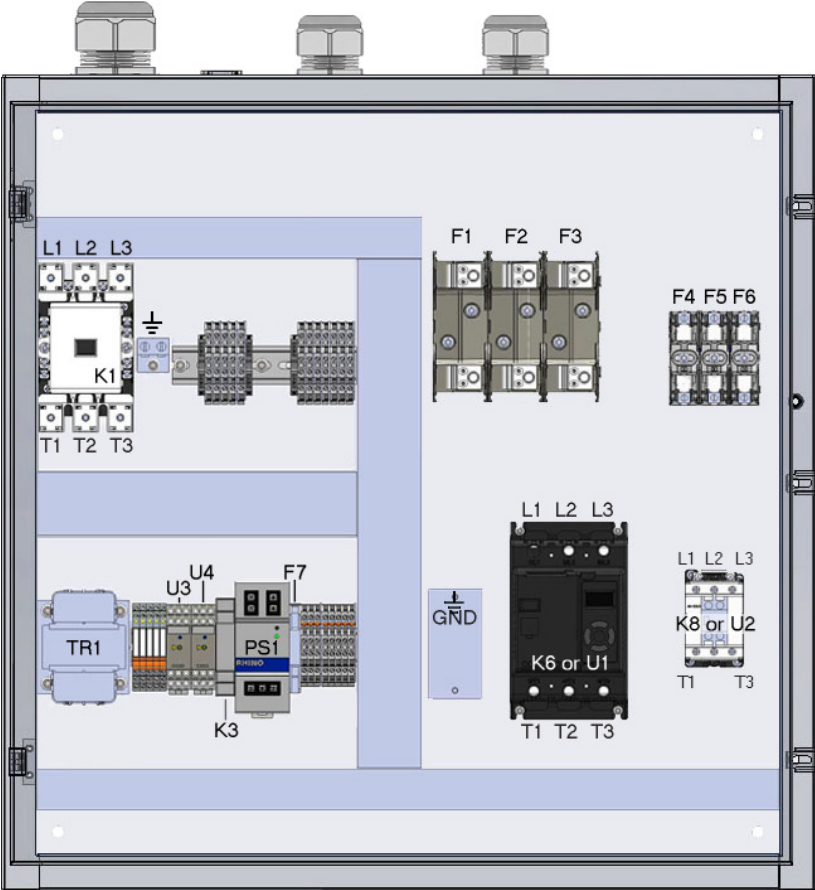

Figure 5 - PCS electronic components
- Figure 5 - PCS electronic components10
The PCS has two motor overtemperature protection options. Closed loop overtemperature protection is for motors that have an internal thermal switch. Some motors employ contact temperature probes (CTPs) in their windings (ex: Leybold SV rotary vane pumps and WSU blowers). These use positive temperature coefficient thermistors (PTCs), a more accurate, but more expensive protection method. CTPs require separate 2.5V overload relays (Figure 5, items U3 & U4, p. 10).